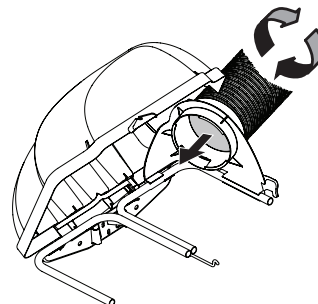

Figure 23
1. Thread the upper end of the hose (764-05082) securely into the upper chute support. There are three stops on the lower inside part of the upper chute support to allow for secure threading. See Figure 23.